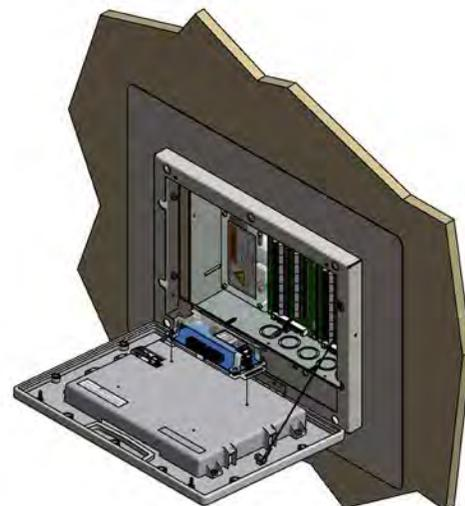

Figure 137: Front Panel Installation
2. Connect the lanyard to the threaded extension on the right side of the trim ring (Figure 137).